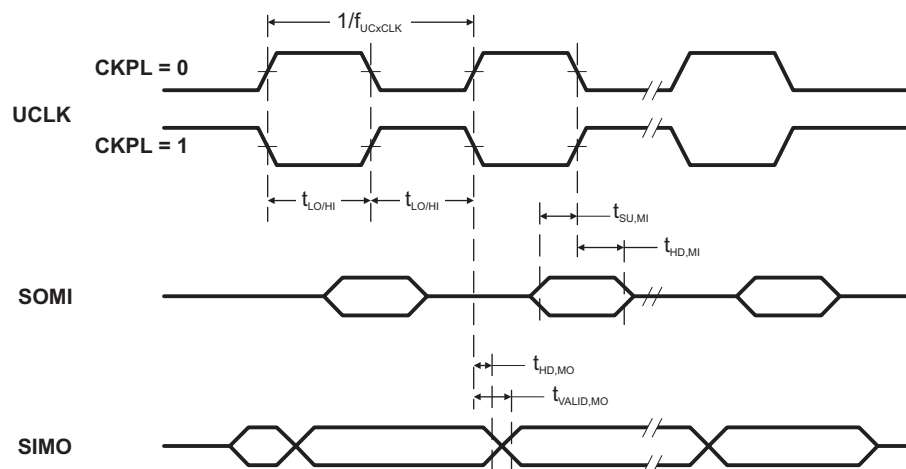
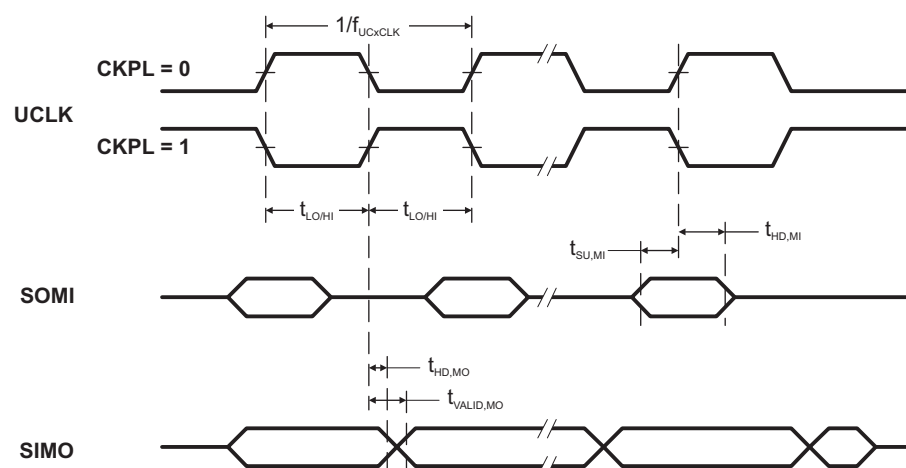

Figure 11. SPI Master Mode, CKPH = 0
Figure 12. SPI Master Mode, CKPH = 1
(see Note ⁽¹⁾, Figure 11 and Figure 12)
- (2) Specifies the time to drive the next valid data to the SIMO output after the output changing UCLK clock edge. See the timing diagrams in Figure 11 and Figure 12.
- (3) Specifies how long data on the SIMO output is valid after the output changing UCLK clock edge. Negative values indicate that the data on the SIMO output can become invalid before the output changing clock edge observed on UCLK. See the timing diagrams in Figure 11 and Figure 12.
- (1) f_{UCXCLK} = 1/2t_{LO/HI} with t_{LO/HI} ≥ max(t_{VALID,MO(Master)} + t_{SU,SI(USCI)}, t_{SU,MI(Master)} + t_{VALID,SO(USCI)}). For the master's parameters t_{SU,MI(Master)} and t_{VALID,MO(Master)} see the SPI parameters of the attached slave.
- (2) Specifies the time to drive the next valid data to the SOMI output after the output changing UCLK clock edge. See the timing diagrams in Figure 11 and Figure 12.
- (3) Specifies how long data on the SOMI output is valid after the output changing UCLK clock edge. See the timing diagrams in Figure 11 and Figure 12.